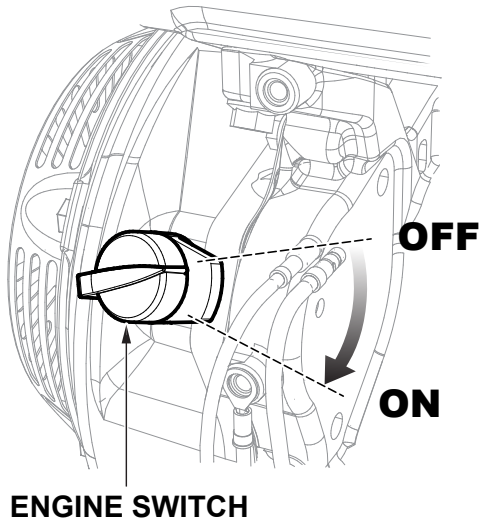

Figure 11. Engine ON/OFF Switch (ON)
4. Place the engine ON/OFF switch in the **ON** position (Figure 11).